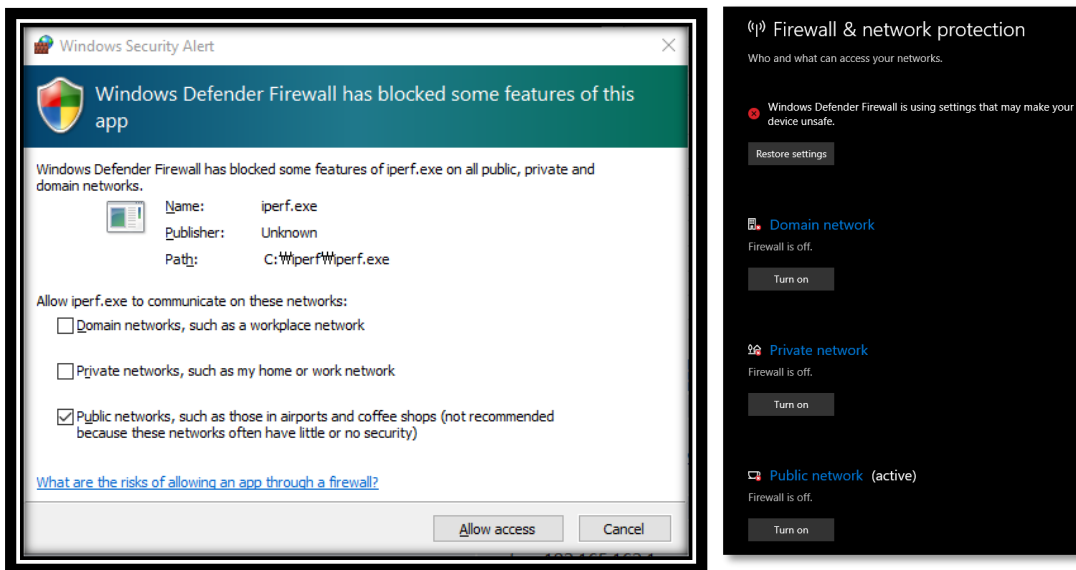

Figure 47: Disable Firewall for Iperf Test
- It is recommended to disable the laptop from all network firewalls before attempting a test as Figure 47.